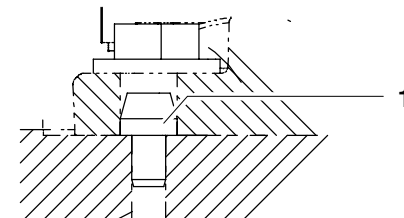

Fig. 61 Locating pins
- (1) Check that both locating pins (Fig. 61/1) are undamaged and fitted securely.
- (1) Check that the locating pins (Fig. 61/2) are undamaged and fitted securely.